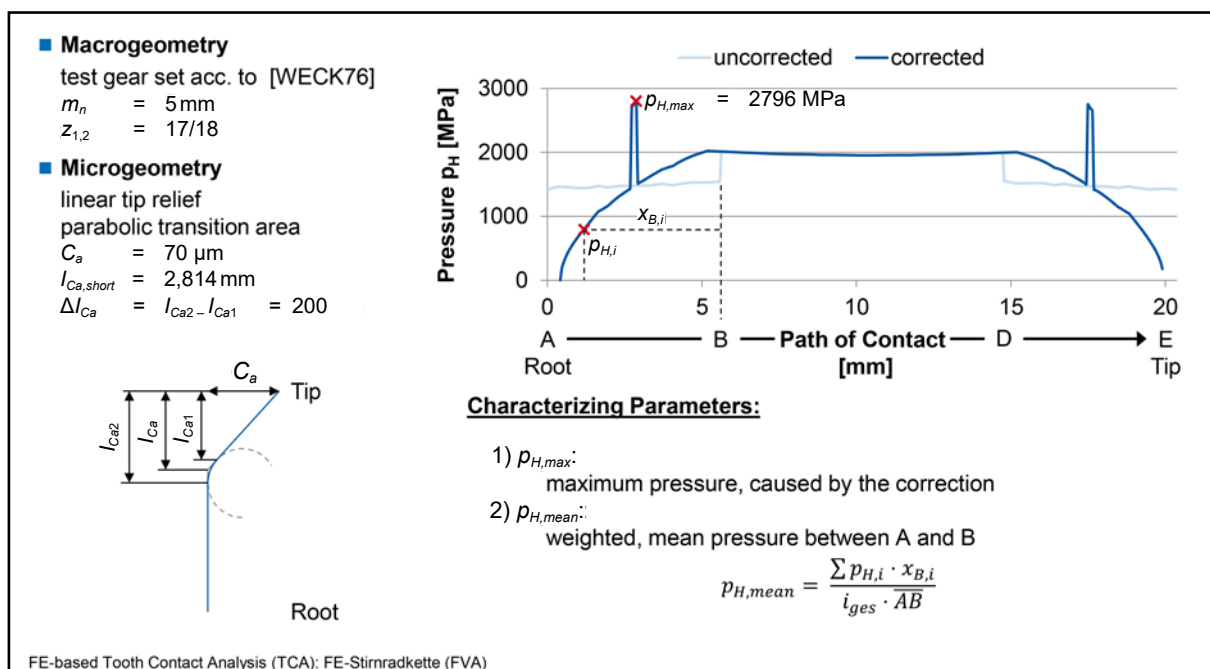

Figure 3 Characterizing parameters for the tooth flank stress.
For the evaluation of the tooth flank stress, the behavior of the calculated pressure along the path of contact is analyzed. In Figure 3 the calculated pressure for a linear tip relief with a transition length of $\Delta l_{Ca} = 200 \mu\text{m}$ is depicted. Compared to the calculated pressure for an uncorrected gear set, the pressure calculated for the *corrected* gear set is continuously rising — from the beginning of contact (A) to the beginning of double tooth contact (B) — and continuously falling from the end of double tooth contact (D) to the end of contact (E). Hence, the areas of high slip are unloaded. Another difference between the uncorrected and the
ered — i.e., combination of pressure and sliding speed must be taken into account. And so, two characterizing parameters are derived for evaluating the potential increase of tooth flank load carrying capacity of each profile correction form (Fig. 3). Besides the maximum pressure caused by the profile correction $p_{H,max}$, a weighted, mean pressure in the area of high negative slip (A-B) $p_{H,mean}$ is introduced, as the high sliding speed in this area leads to high risk of pitting damages.